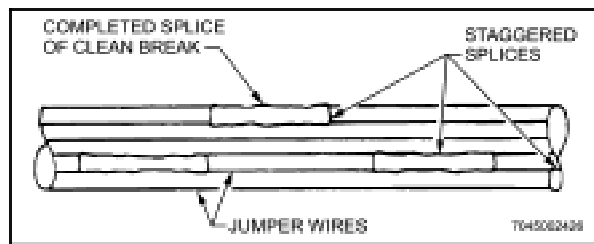

Figure 5-7 Completed Splices
- p. Work repaired wires into the bundle ensuring splices remain staggered (Figure 5-7).